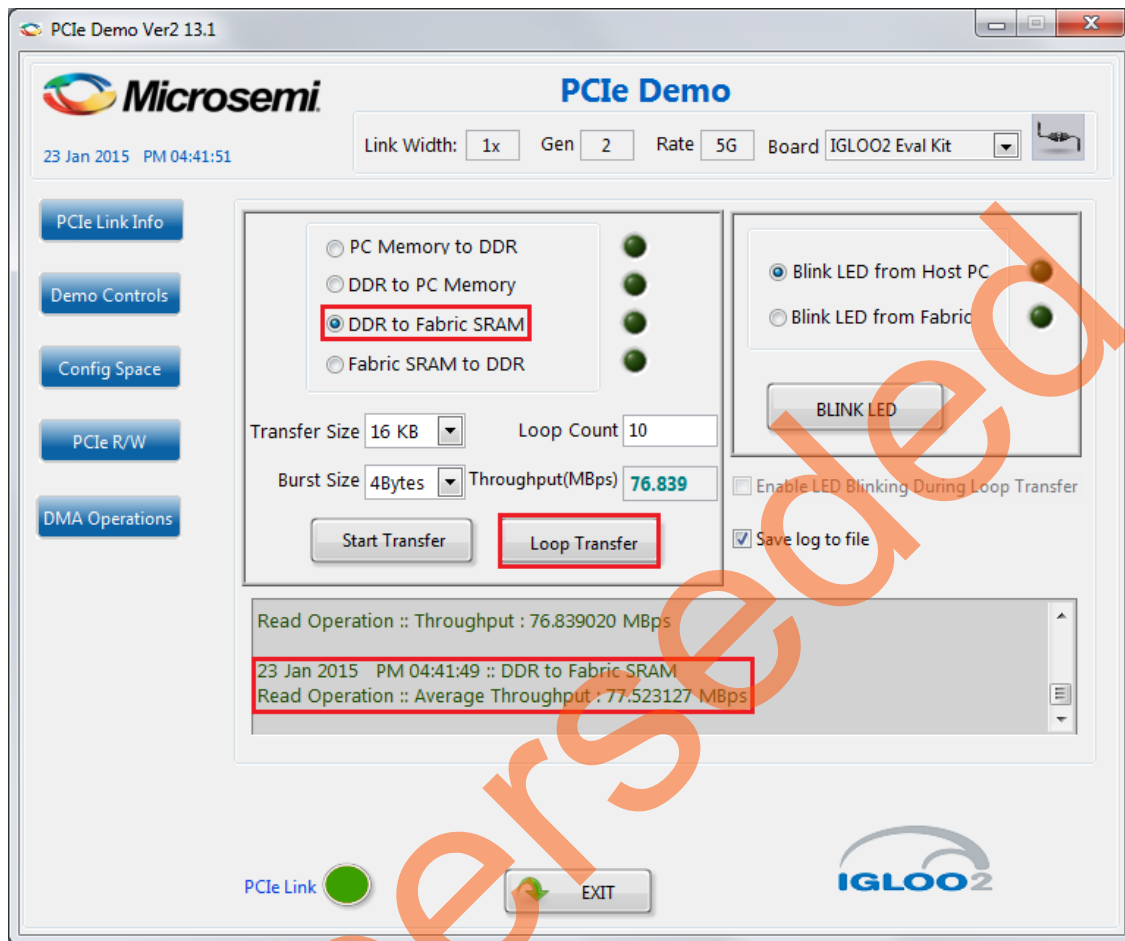

Figure 29 • LSRAM To DDR DMA Loop Transfer
22. Select the type of DMA transfer as **DDR to Fabric SRAM**. Select any **Transfer Size** and click **Loop Transfer** as shown in Figure 29.